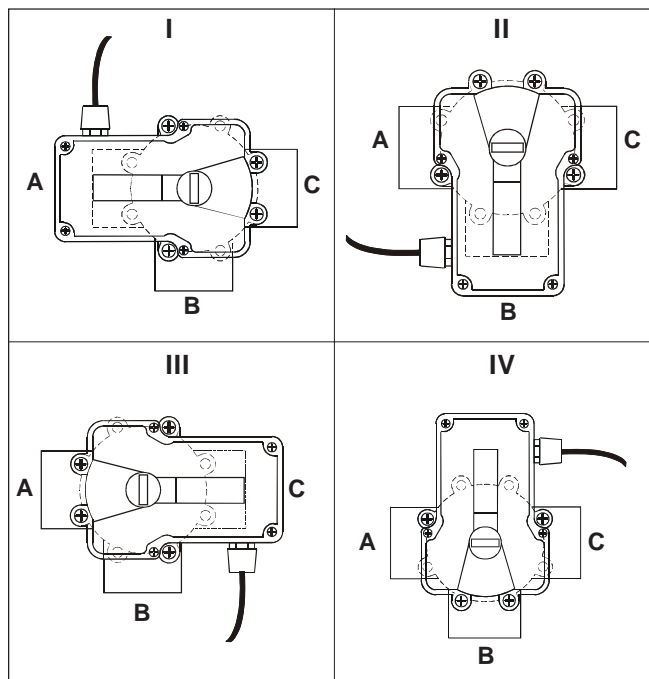

Figure 3. JVA Mounting Positions.
JVA's may be mounted onto valves in any of the four (4) positions in Figure 3.